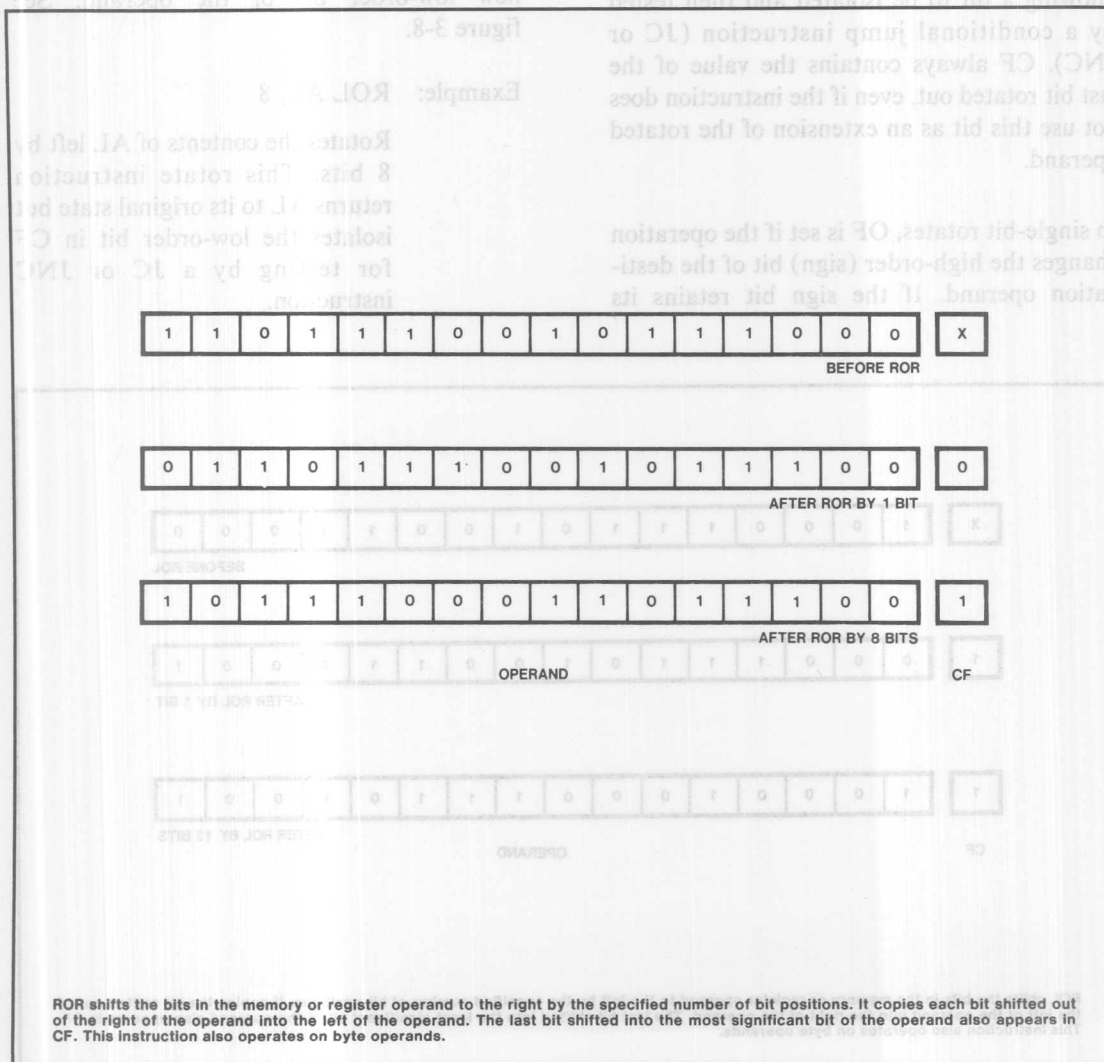

Figure 3-9. ROR
*ROR (Rotate Right)* rotates the byte or word destination operand right by one or by the number of bits specified in the count operand (an immediate value or the value contained in CL). For each rotation specified, the low-order bit that exits from the right of the operand returns at the left to become the new high-order bit of the operand. See figure 3-9.